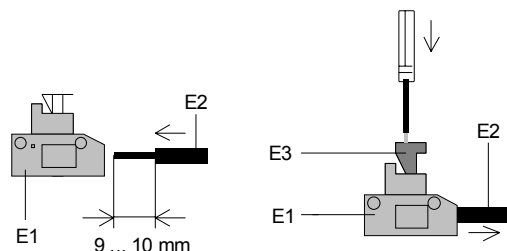

Figure 3: Connecting and disconnecting wires
**Power Supply Unit N 125****N125/01 (160 mA / with integrated choke)****N125/11 (160 mA / with integrated choke)****N125/21 (640 mA / with integrated choke)****5WG1 125-1AB01****5WG1 125-1AB11****5WG1 125-1AB21**Connecting mains (figure 3)
Disconnecting the mains (figure 3)